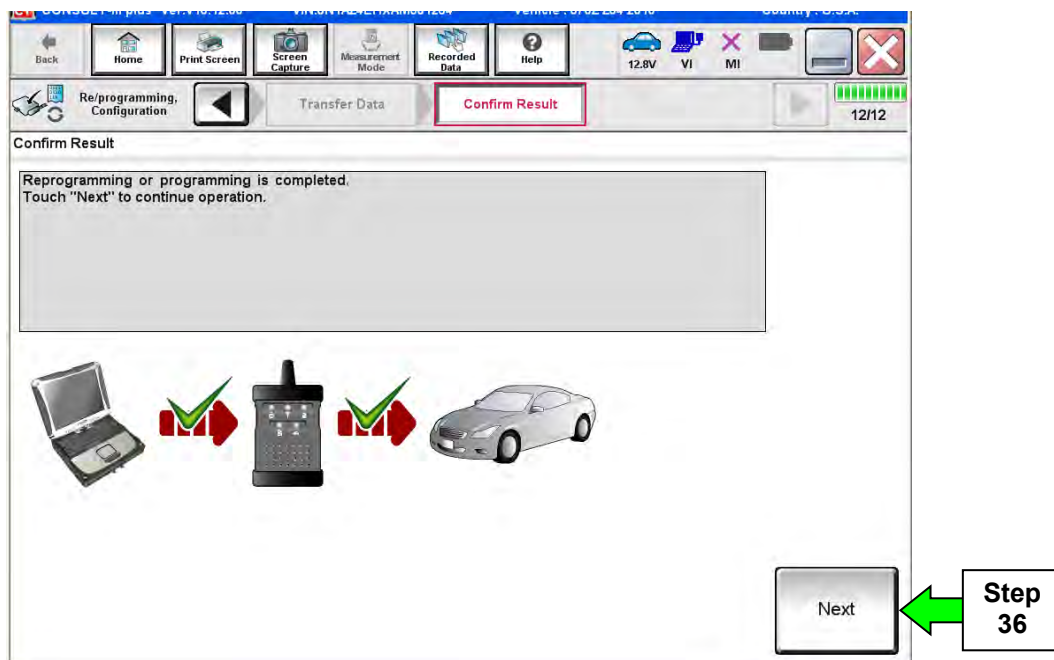

Figure 18
34. When the screen in Figure 18 displays, the reprogramming is complete.
NOTE: If the screen in Figure 18 does not display (reprogramming does not complete), refer to the information on the next page.